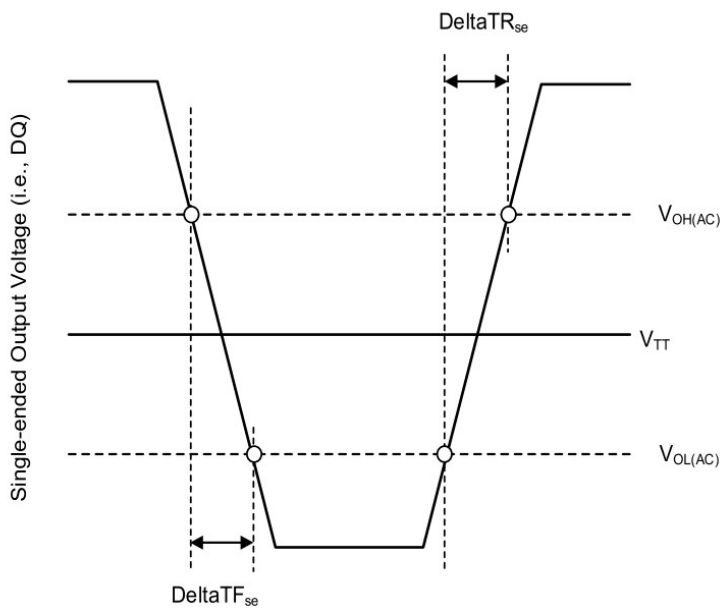

Figure 35 – Single-ended Output Slew Rate Definition
With the reference load for timing measurements, output slew rate for falling and rising edges is defined and measured between VOL(AC) and VOH(AC) for single-ended signals as shown in Table 35 and Figure 35.